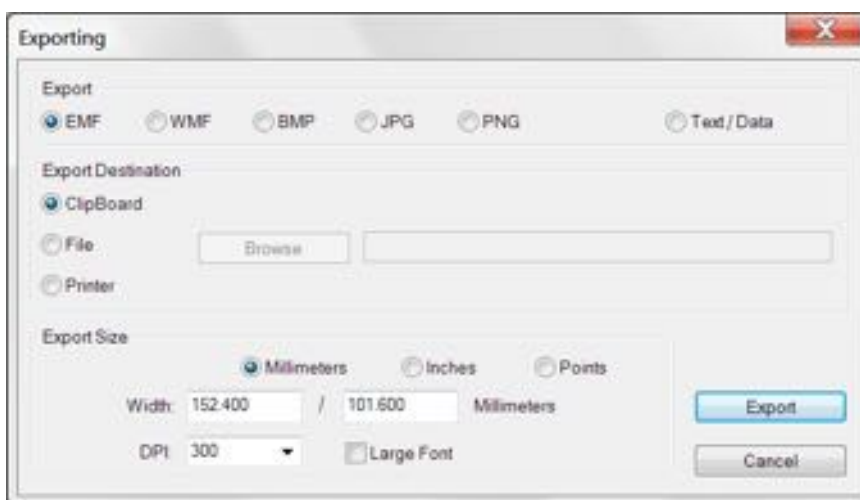

Figure 8-66: Exporting Dialog Box
2. In the **Exporting** dialog box (see Figure 8-66), select the export options and click **Export**.